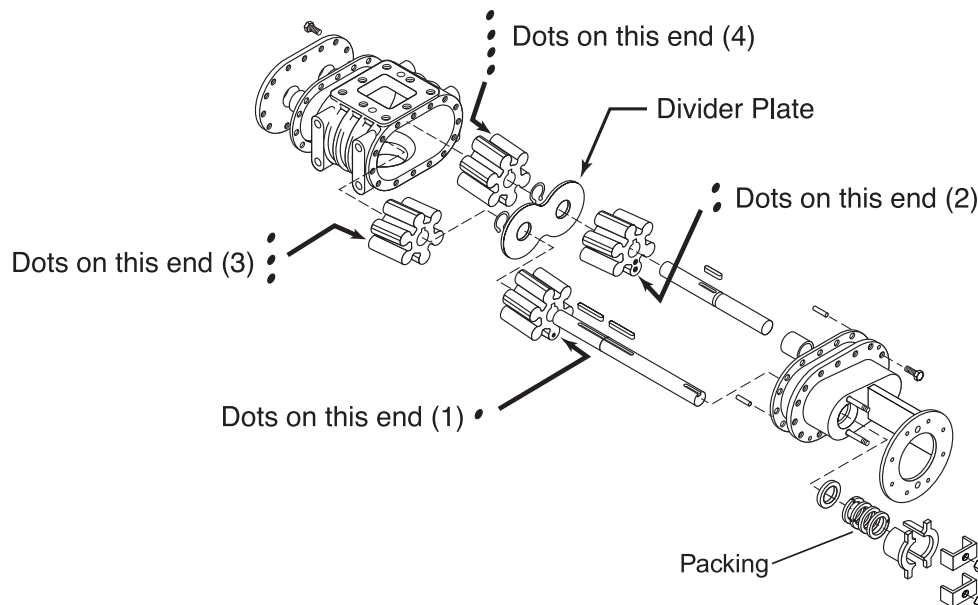

Figure 31. Etnyre Asphalt Pump.
1. Remove 20 capscrews from perimeter of pump end plate (see Figure 31).